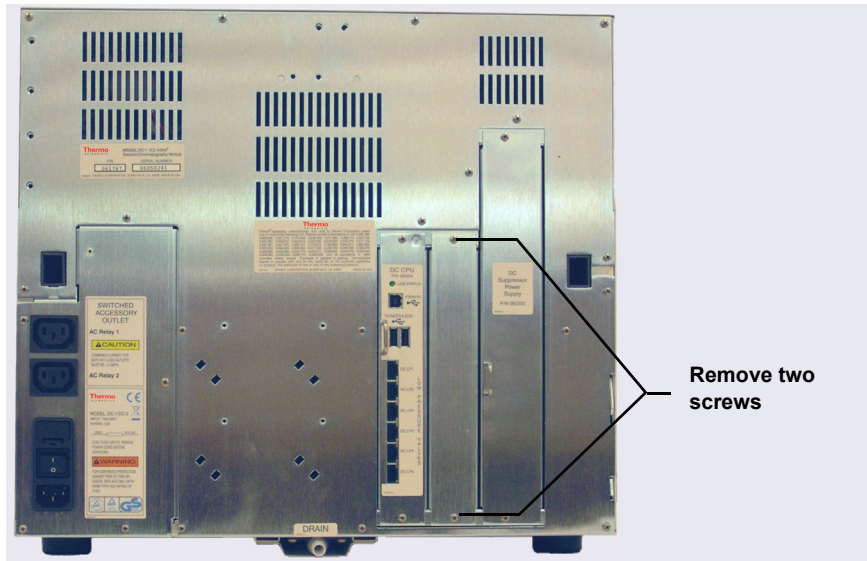

Figure 10-41. DC Rear Panel: Removing the Cover Plate
4. Remove the two screws that attach the cover plate or the existing board to the DC slot (see Figure 10-41). Save the screws.